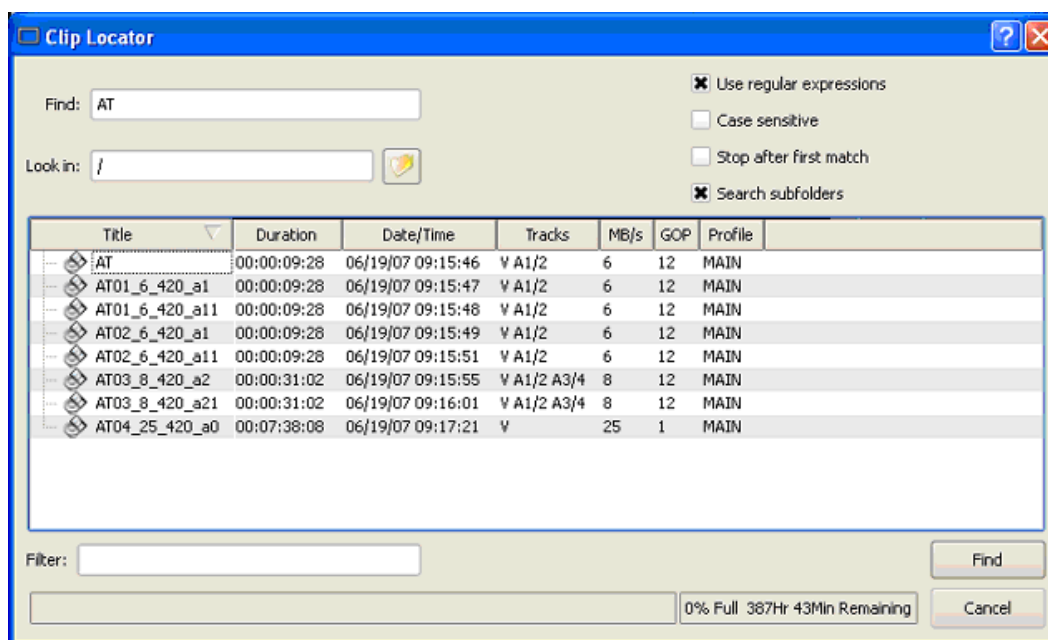

Figure 17 - Clip Locator
- Click **SHOW > FIND CLIPS**. The Clip Locator screen of Figure 17 appears.